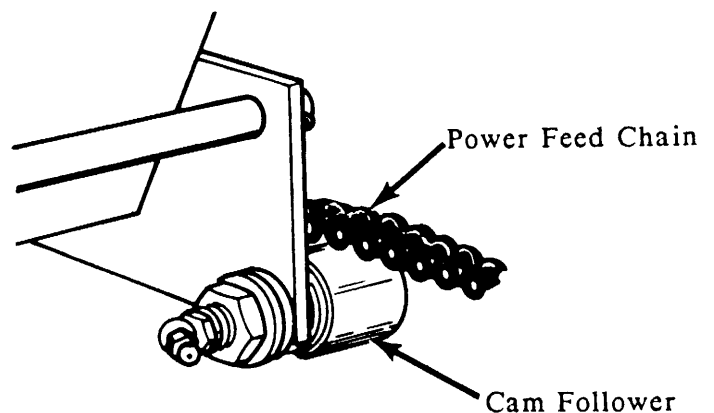

FIGURE 5
6. Grease power feed cam roller (See Figure 5).